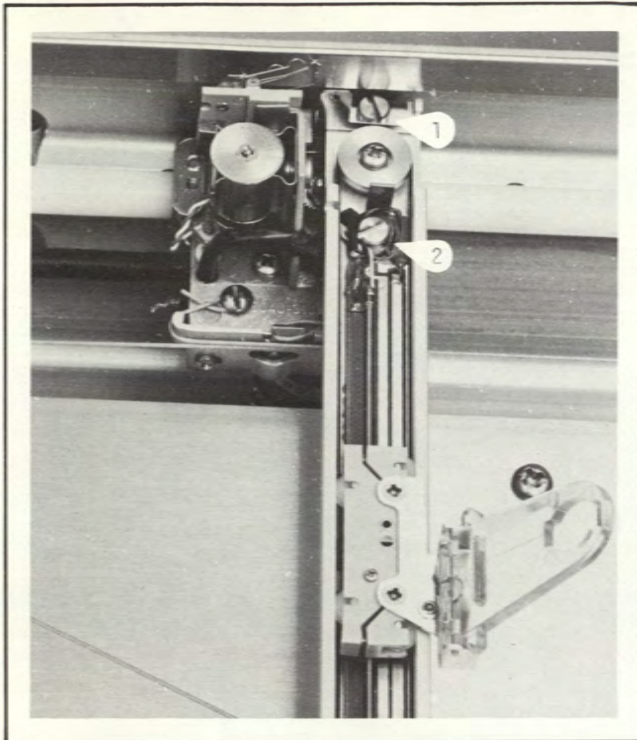
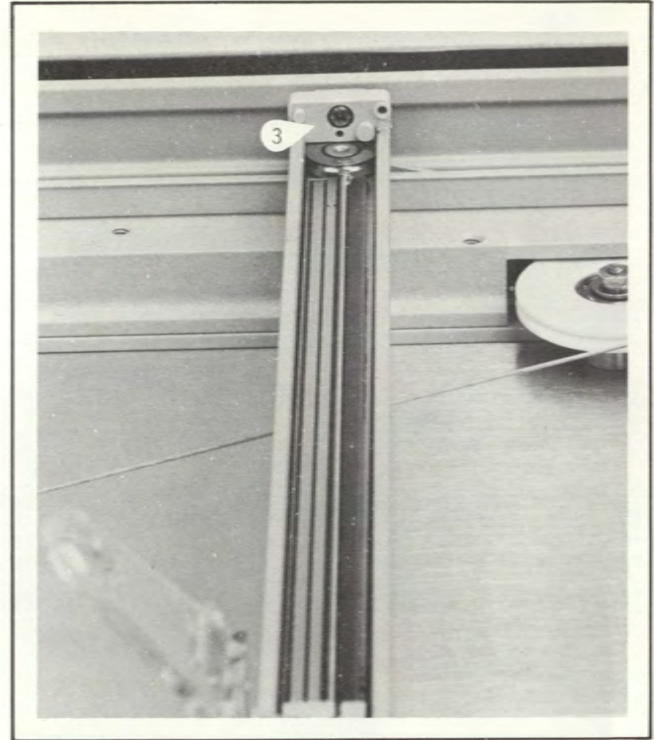

FIGURE 3-6a. CARRIAGE ARM REMOVAL (UPPER)
FIGURE 3-6b. CARRIAGE ARM REMOVAL (LOWER)
- e. The arm is held by two shouldered screws at upper end (see Figure 3-6a) and one screw at its lower end (see Figure 3-6b).
1. Remove screws (1), (2), and (3) and lift arm off of its motor block.